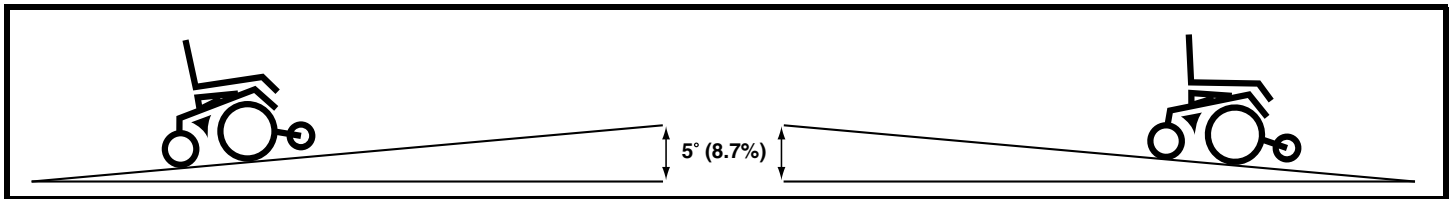

Figure 1. Maximum Safe Slope (Ascending and Descending)
**WARNING!** Even though your power chair is capable of climbing slopes greater than those illustrated in figure 1, do not, under any circumstances, exceed the incline guidelines or any other specifications presented in this manual. Doing so could cause instability in your power chair.
Pride recommends that the maximum slope of an incline you attempt to safely ascend or descend on your power chair does not exceed 5° (8.7%). See figure 1.